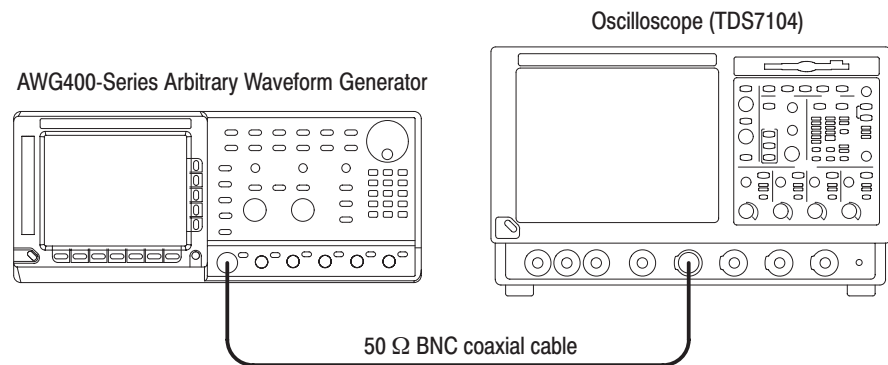

Figure 5–5: Continuous mode initial test hookup (Instrument with option 05)
- a. Use a 50 Ω coaxial cable to connect the AWG400-Series CH1 output connector to the oscilloscope CH1 input connector. (see Figure 5–5).
NOTE. For the AWG420/AWG430, turn off the power switch, and remove the CH2 A70/A72 output board (see Figure 5–6).